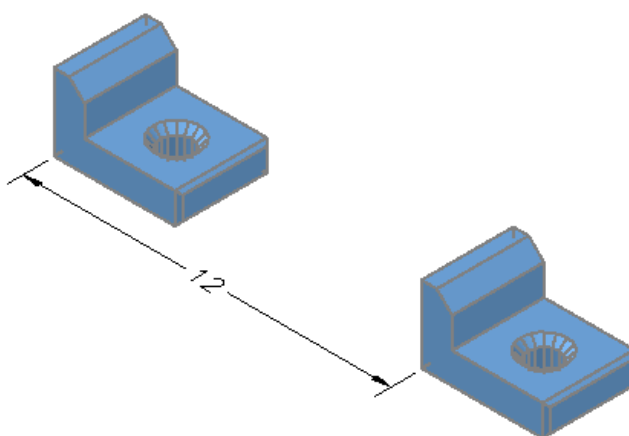

Figure Step 5
Step 5 Turn layer: Pline off. Set the current UCS set to World and make a copy of the solid model 12 inches along the X axis. (Figure Step 5)